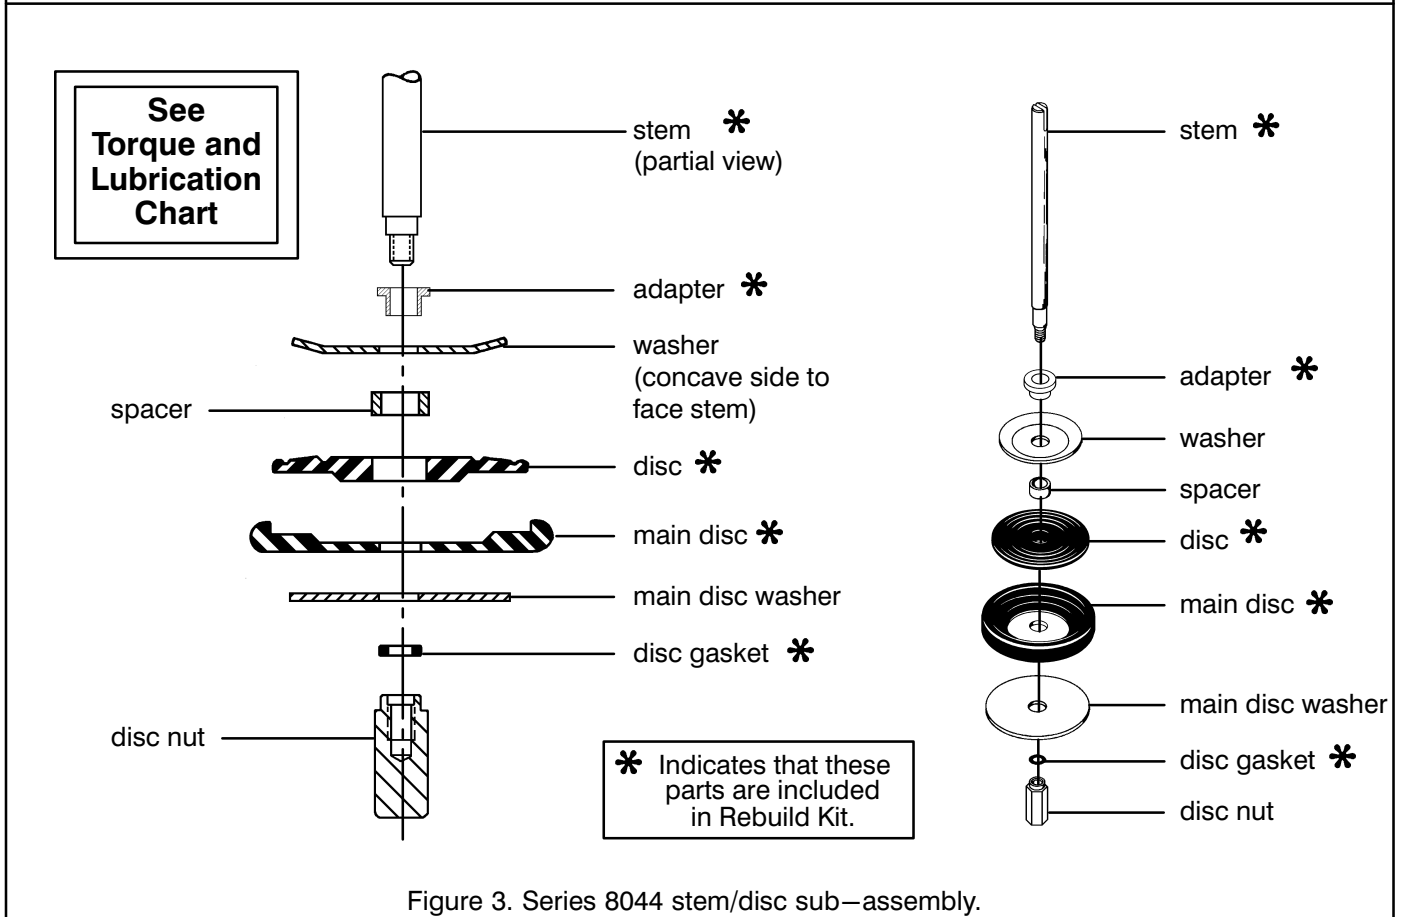

Figure 3. Series 8044 stem/disc sub-assembly.
Note: Refer to Figure 3. for disassembly of stem/disc sub-assembly.
5. Reassemble stem/disc sub-assembly paying careful attention to exploded views in Figure 3 on page 7 of 8. Install adapter, washer (concave side up toward stem), spacer, disc, main disc, main disc washer, disc gasket and disc nut. Prior to assembly, it is recommended that LOCTITE® Primer "N" or "T" be used on threads of stem and disc nut. Allow primer to air dry for 5 minutes, then apply LOCTITE® TL290 thread sealer to disc nut and stem threads. Torque disc nut to 75 ± 10 in-lbs [8,5 ± 1,1 Nm]. Wipe any excessive amount of thread sealer from assembly as this sealer is anaerobic and will remain in a liquid state in the presence of air. For primed parts allow 30–60 minutes for cure time. For unprimed parts, allow 2 hours cure time before operating valve.
7. Replace body gasket and body passage gaskets (2). Body passage gaskets are only used on 2 1/2" and 3" NPT valve constructions.